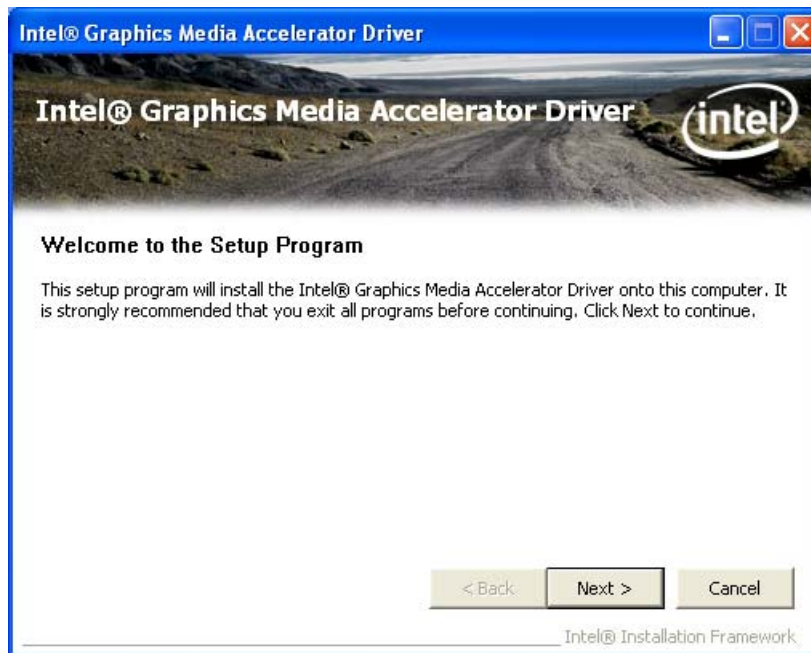

Figure 6-11: VGA Driver Welcome Screen
Step 6: The **Welcome Screen** in **Figure 6-11** appears.